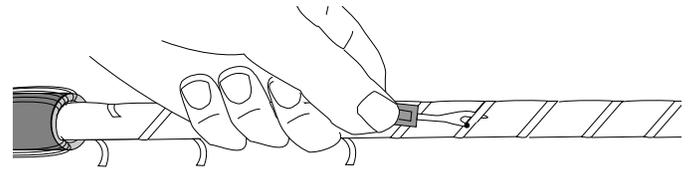

Figure 13
5.12 Use a seam ripper every 5 cm (2 in.) to cut the single binding tape that secures the waterblocking tape to the cable core. **USE EXTREME CAUTION** to prevent buffer tube damage (Figure 13).